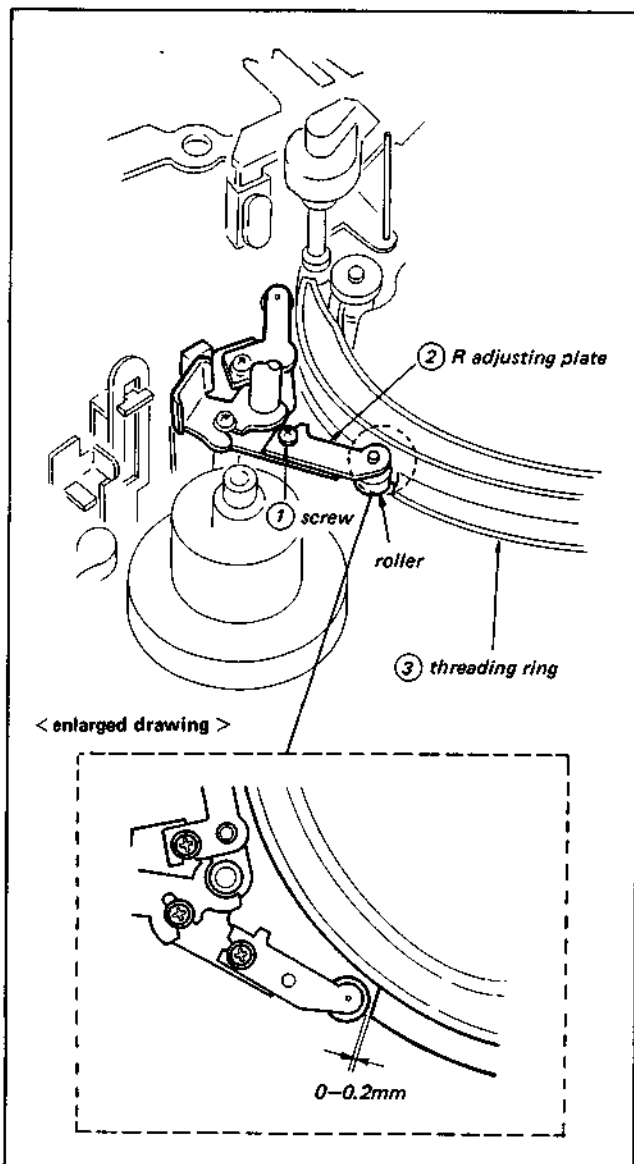

Fig. 3-25. Clearance adjustment of ring arm
3. Loosen screw ① shown in Fig. 3-25 and adjust R adjusting plate assembly ② so that the clearance between the roller of R adjusting plate assembly ② and threading ring assembly ③ satisfies the specification (0 to 0.2 mm). Repeat the threading and unthreading operations several times, confirm that the roller of R adjusting plate assembly ② drops into the bottom of the cam of the threading ring, and tighten screw ① after the confirmation.